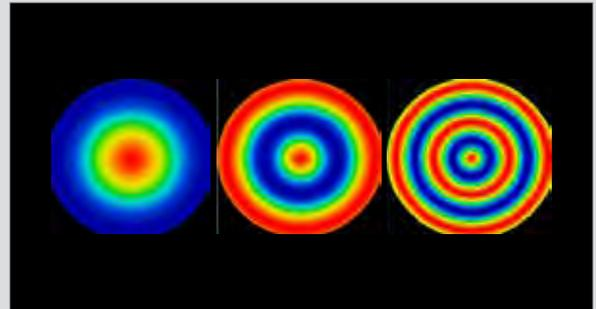
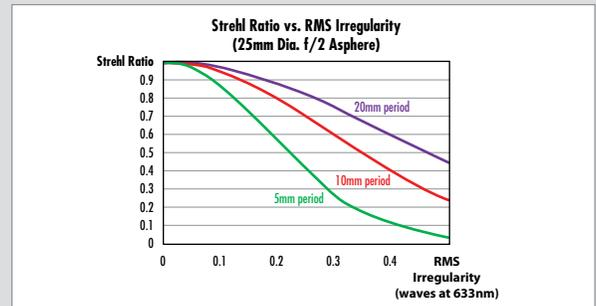

Figure 2: Radial cosine irregularity maps on a 25mm diameter  $f/2$  asphere surface. The cosine periods from left to right are 20mm, 10mm, and 5mm
Figure 3: For a particular RMS surface irregularity, the more cosine periods over the aperture of the asphere, the lower the Strehl Ratio
For example, consider the impact of spatial frequency. When surface irregularity is modeled as a rotationally-symmetric cosine function, we can explore the resulting Strehl Ratio as a function of RMS surface irregularity for a variety of cosine periods (Figure 2 and Figure 3).
The specified LIDT of an optic is determined by linearly extrapolating the test data to determine the laser fluence at which the probability of damage is zero. However, this is a linear fit to data that is not truly linear. This single value does not provide all necessary information and damage could still occur at or below the LIDT. Weibull and Burr distributions are continuous probability distributions that provide a much more accurate fit to LIDT data (Figure 2).
**Figure 2:** Real LIDT test data with the LIDT value shown by a red vertical line and a best fit 2-parameter Weibull distribution, showing that there is still some probability of damage below the LIDT value